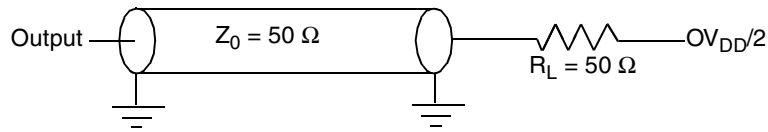

Figure 31. AC Test Load for the JTAG Interface
- All outputs are measured from the midpoint voltage of the falling/rising edge of tTCLK to the midpoint of the signal in question. The output timings are measured at the pins. All output timings assume a purely resistive 50-Ω load (see Figure 31). Time-of-flight delays must be added for trace lengths, vias, and connectors in the system.
- The symbols used for timing specifications herein follow the pattern of t(first two letters of functional block)(signal)(state) (reference)(state) for inputs and t(first two letters of functional block)(reference)(state)(signal)(state) for outputs. For example, tJTDVKH symbolizes JTAG device timing (JT) with respect to the time data input signals (D) reaching the valid state (V) relative to the tJTG clock reference (K) going to the high (H) state or setup time. Also, tJTDXKH symbolizes JTAG timing (JT) with respect to the time data input signals (D) went invalid (X) relative to the tJTG clock reference (K) going to the high (H) state. Note that, in general, the clock reference symbol representation is based on three letters representing the clock of a particular functional. For rise and fall times, the latter convention is used with the appropriate letter: R (rise) or F (fall).
Figure 31 provides the AC test load for TDO and the boundary-scan outputs of the MPC8541E.